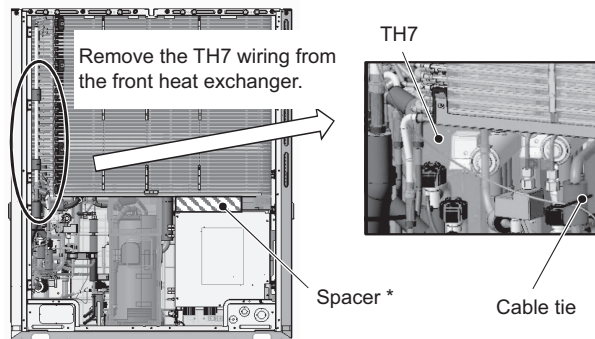

Figure 13
(17) Remove the TH7 wiring from the heat exchanger by cutting the cable tie. (See Figure 13.)